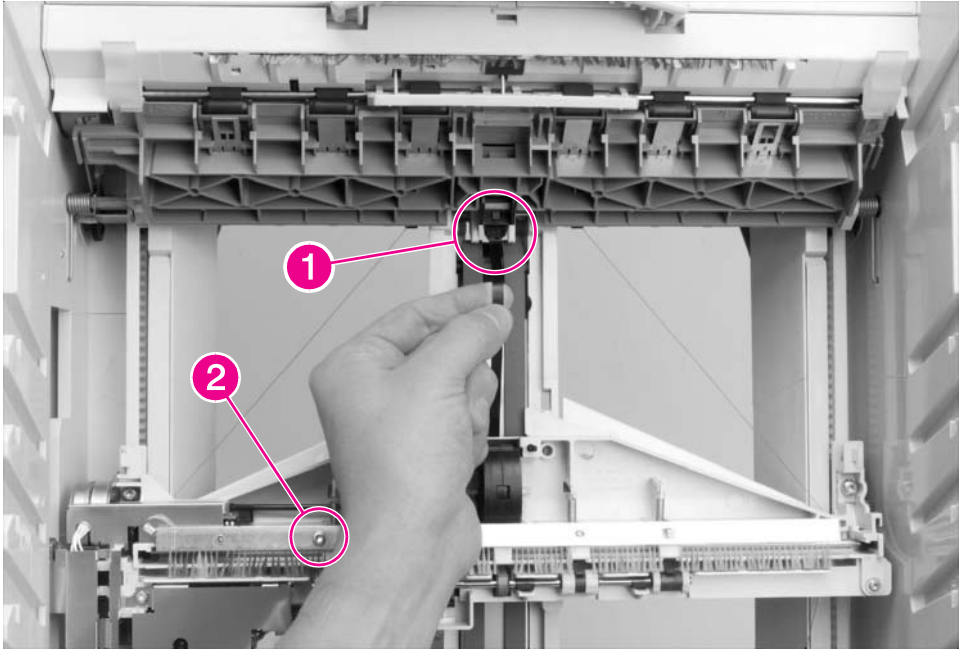

Figure 6-161 8-bin Mailbox Metal Tape and Housing Assembly (1 of 2)
- 2 With the Delivery Head Assembly at the top of the 8-bin Mailbox, hold the Metal Tape near the end, and push and release the retainer tab that secures the end of the tape to the top of the 8-bin Mailbox frame (Figure 6-161, callout 1). Then let the tape slowly rewind into its housing.
- 1 Thread the end of the Metal Tape behind the rollers (callout 4), and then pull the end of the tape to the top of the 8-bin Mailbox and reinsert it into place (Figure 6-161, callout 1).
- 3 Reinstall the static brush (Figure 6-161, callout 1).